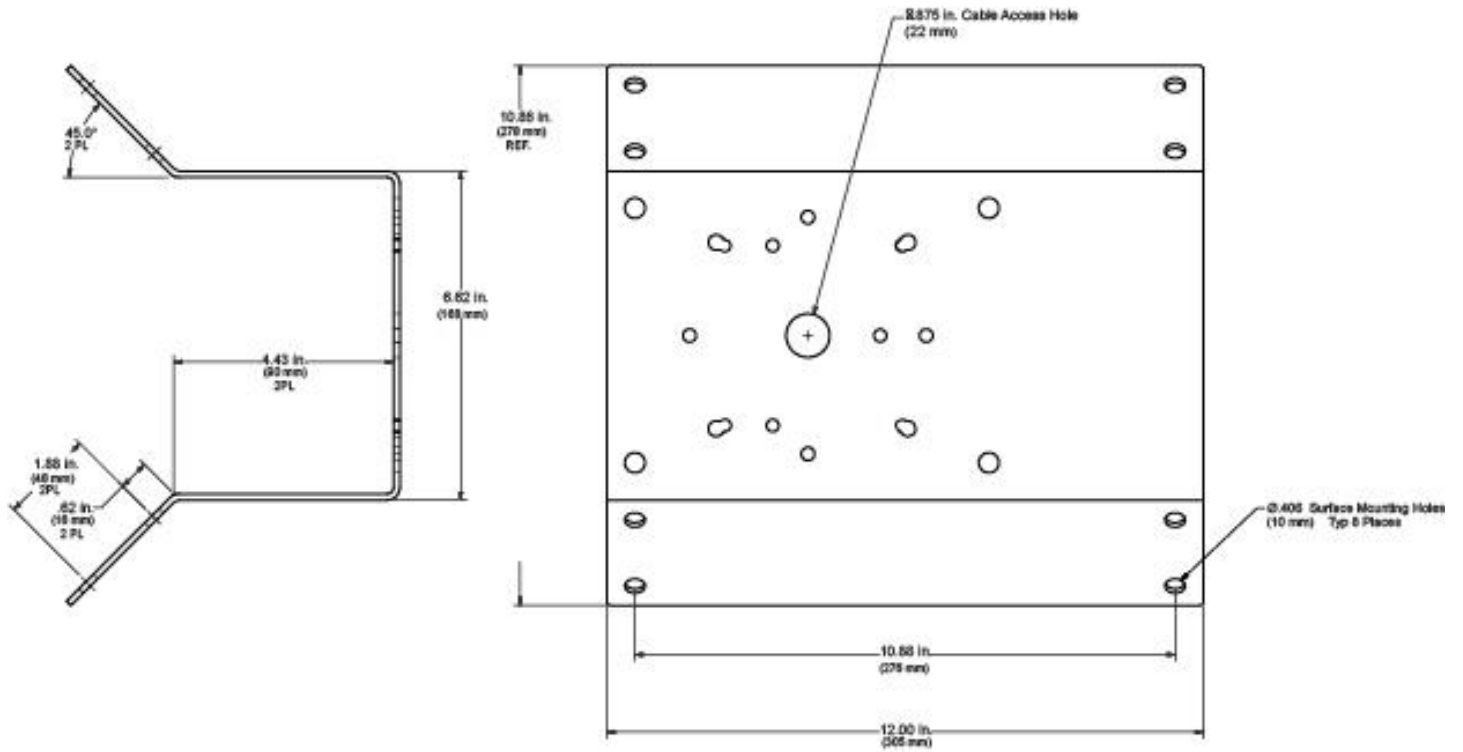

Figure 1
2. Secure the V-24CMB-3 to the structure with eight (8) 3/8-in. lag screws or hex bolts (or studs). Use the V-24CMB-3 as a template if holes are to be pre-drilled. Refer to Figure 1 for the dimensions of the V-24CMB-3.
3. Secure the wall mount base plate to the face of the corner mounting bracket with four (4) 3/8-in. x 1-in. hex bolts, nuts, and washers or four (4) 1/4-in. x 1-in. hex bolts, nuts, and washers or appropriate hardware for the mount.